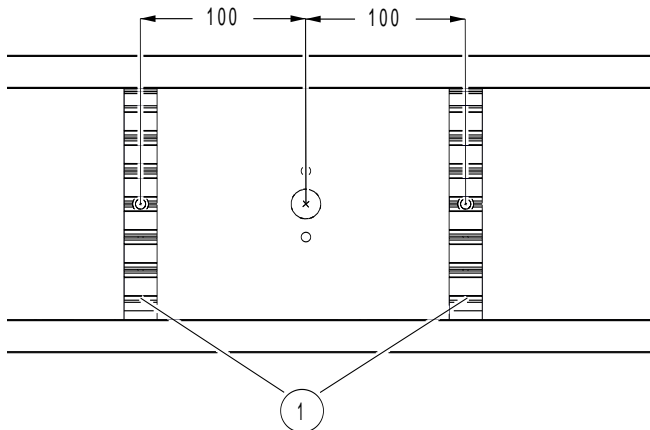

Fig. 7: Distance between hanger clamp and the sliding contact sensor unit
- Mount the hanger clamps, which are located to the right and left of the sliding contact sensor unit, at a distance of 100 mm from the sliding contact sensor unit (see Fig. 7).